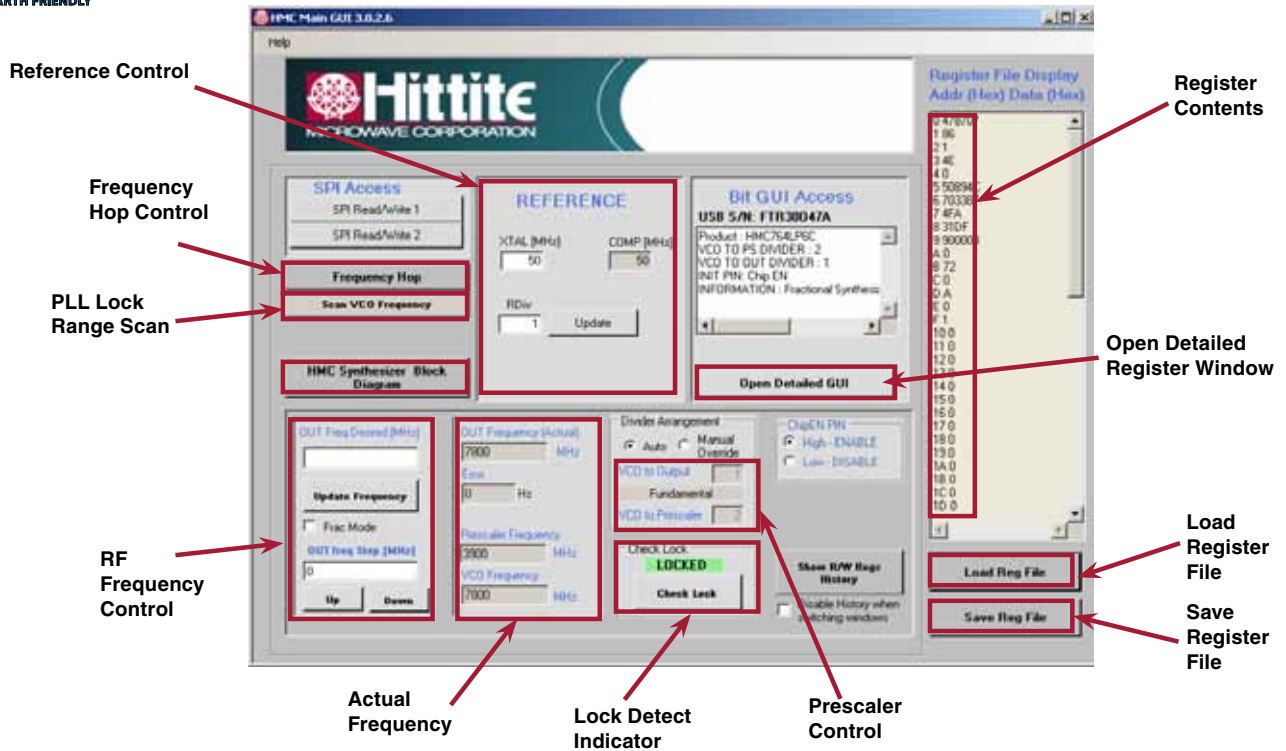
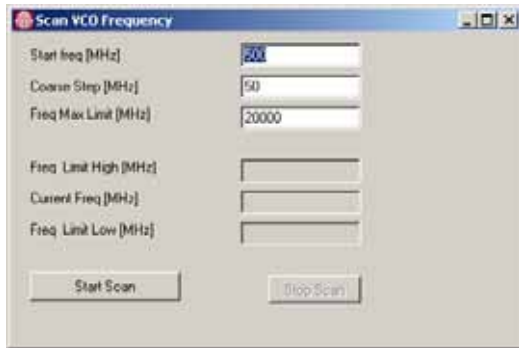
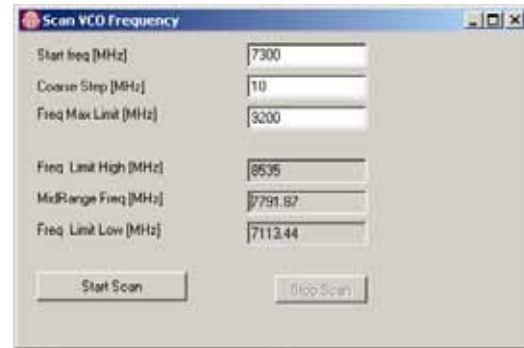

Figure 11. Main Control Window after Loading Register File
Figure 14. Default "Scan VCO Frequency" Window
Figure 15. Scan Setting and Scan Result on HMC764LP6CE
**Step 7.** Click “Load Reg File” button to load the register contents of the part (Figure 11).
**Step 10.** Scan the VCO frequency to find the PLL with Integrated VCO locked range (“Frac Mode” box must be checked). Click “Scan VCO Frequency” button in the main control panel (Figure 11). A new small window pops out as shown in Figure 14. Set “Start Freq”, “Coarse Step” and “Freq Max Limit”, click “Start Scan” button (refer to the specified Min/Max frequencies of the individual product data sheet, set “Start Freq” to Min frequency and set “Freq Max Limit” to 1 GHz above Max frequency). When the scan is finished, the PLL with Integrated VCO locked range will be shown in the window. As an example, Figure 15 shows the scan setting and scan result on HMC764LP6CE. Remember that the frequency lock range is greater than the specified frequency range and the phase noise or spurs will degrade outside of this specified window.
Click "Frequency Hop" button in the main control panel (Figure 11). A new small window pops out as shown in Figure 16. Set "Frequency #1", "Frequency #2" and "Dwell Time" in this window. Then click "Start" button. The RF signal will switch between "Frequency #1" and "Frequency #2" in the defined "Dwell Time". Figure 17 shows a typical example of the "Frequency Hop" setting on the HMC764LP6CE. This function usually is used to find the frequency settling time of the PLL with Integrated VCO.